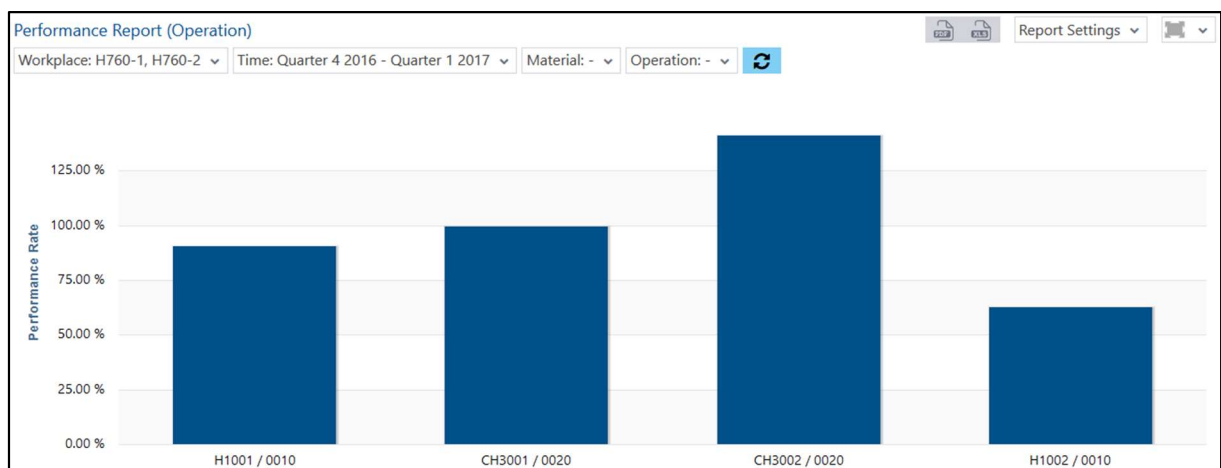

Fig. 94: Performance Report (Operation) as a column chart
- Performance Report (Operation) as a column chart (Fig. 94):